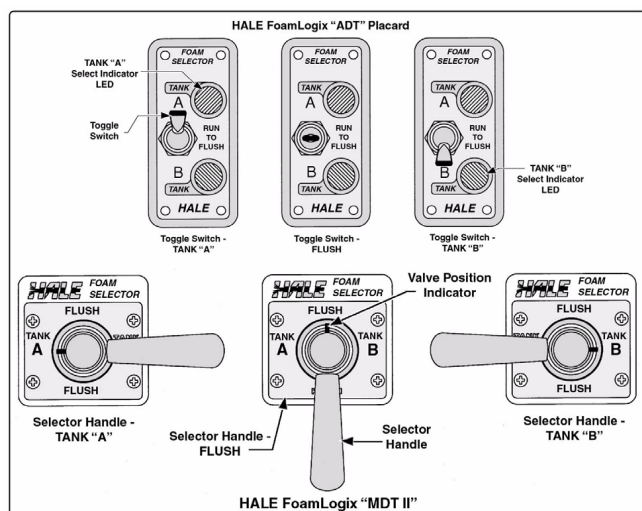
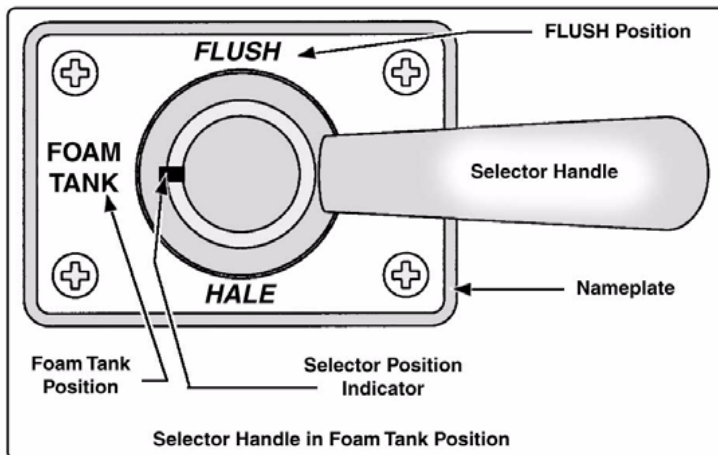

Figure 69: Dual Tank Selector Operating Positions
Figure 74: Hale MST Selector Operation
Make sure the Hale SmartFOAM is operating and foam solution is being discharged (**Figure 69**).
Note: Approved Class “A” foam concentrates do not deteriorate rapidly like Class “B” concentrates. As long as an approved Class “A” foam concentrate is used and the system is operated within 10-12 weeks no flushing is required. When Class “B” foam concentrate is used, always FLUSH the system, then switch back to Class “A” (**Figure 69** and **Figure 74**).
3. Place the Hale ADT, MDT II or MST to the FLUSH position (**Figure 74**).